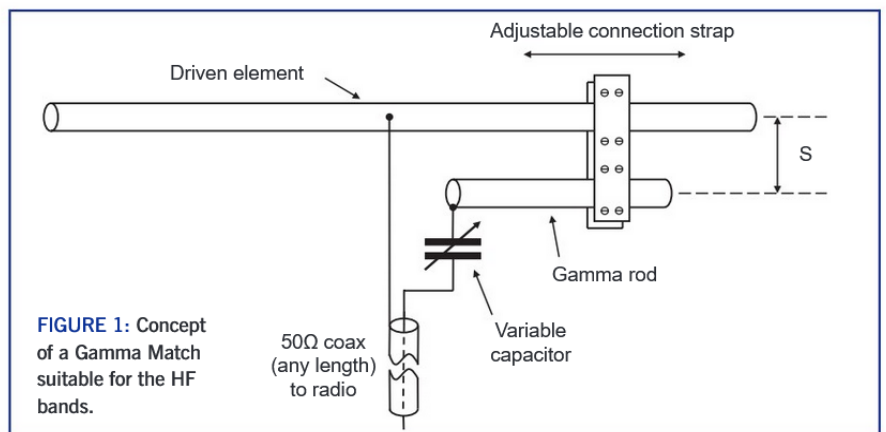

FIGURE 1: Concept of a Gamma Match suitable for the HF bands.
When using this technique the usual practice is to mount the Gamma Match onto the antenna's boom, which provides a convenient means to electrically connect the coaxial cable's shield to the antenna. A short length of conductor, called the gamma rod, is used to connect the centre of the coaxial cable to the correct impedance point on the driven element through a variable capacitor connected in series. This variable capacitor is used to tune out any reactance associated with the driven element and gamma rod. The concept of the Gamma Match is shown in Figure 1.
- Spacing between the gamma rod and the driven element (S in Figure 1).
The process to find the correct combination of settings to give the best match can be a time-consuming activity because several iterations of the variables become necessary. One method to improve this procedure is to use an adjustable strap as the connection between the gamma rod and the driven element, allowing its position to be adjusted to find the best match (as shown in Figure 1). With care